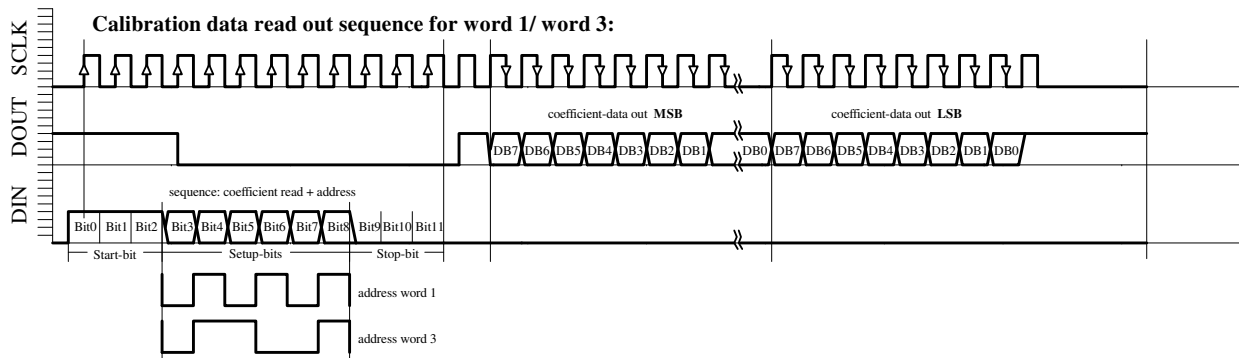

Fig. 6c: Word1, Word3 READING sequence.
- Calibration data read-out sequence for Word1 (Figure 6c)
- Calibration data read-out sequence for Word3 (Figure 6c)